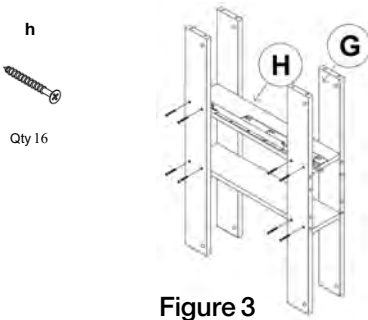

Figure 3
3. Install opposite glide onto the center brace (H) corresponding to the side panel you chose from step 2. Then attach the 2 center braces (H) and 4 braces (G) together using screws (h). (Figure 3)
(With the assembled braces aligned as shown in Figure 3, the glide should be installed as shown for a left drawer/door BBC. Likewise, the glide should be installed on the opposite center brace for a right drawer/door BBC.)